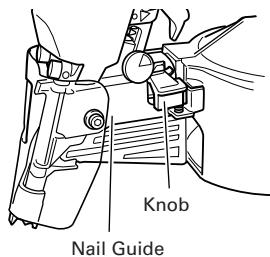

Fig. 17
- (1) Occasionally clean the knob sliding part and then apply the recommended oil. (See **Fig. 17.**)